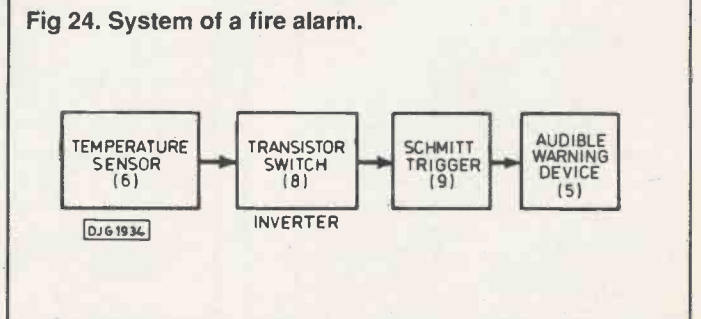

Fig 24. System of a fire alarm.
(1) If the load is a relay which switches a lamp or bell, wire the alarm device to contact 1, so that the alarm is switched on when the relay coil is off.
(2) Use a different heat sensor module, with the thermistor and resistor swapped round.
(3) Use the transistor switch as an inverter (Fig.24). A resistor of say 1k is connected as its load. Output falls from almost 6V to about 1V when the switch is on. This output is fed to the Schmitt trigger. This is another example of using a resistor to 'convert a current into a voltage'.